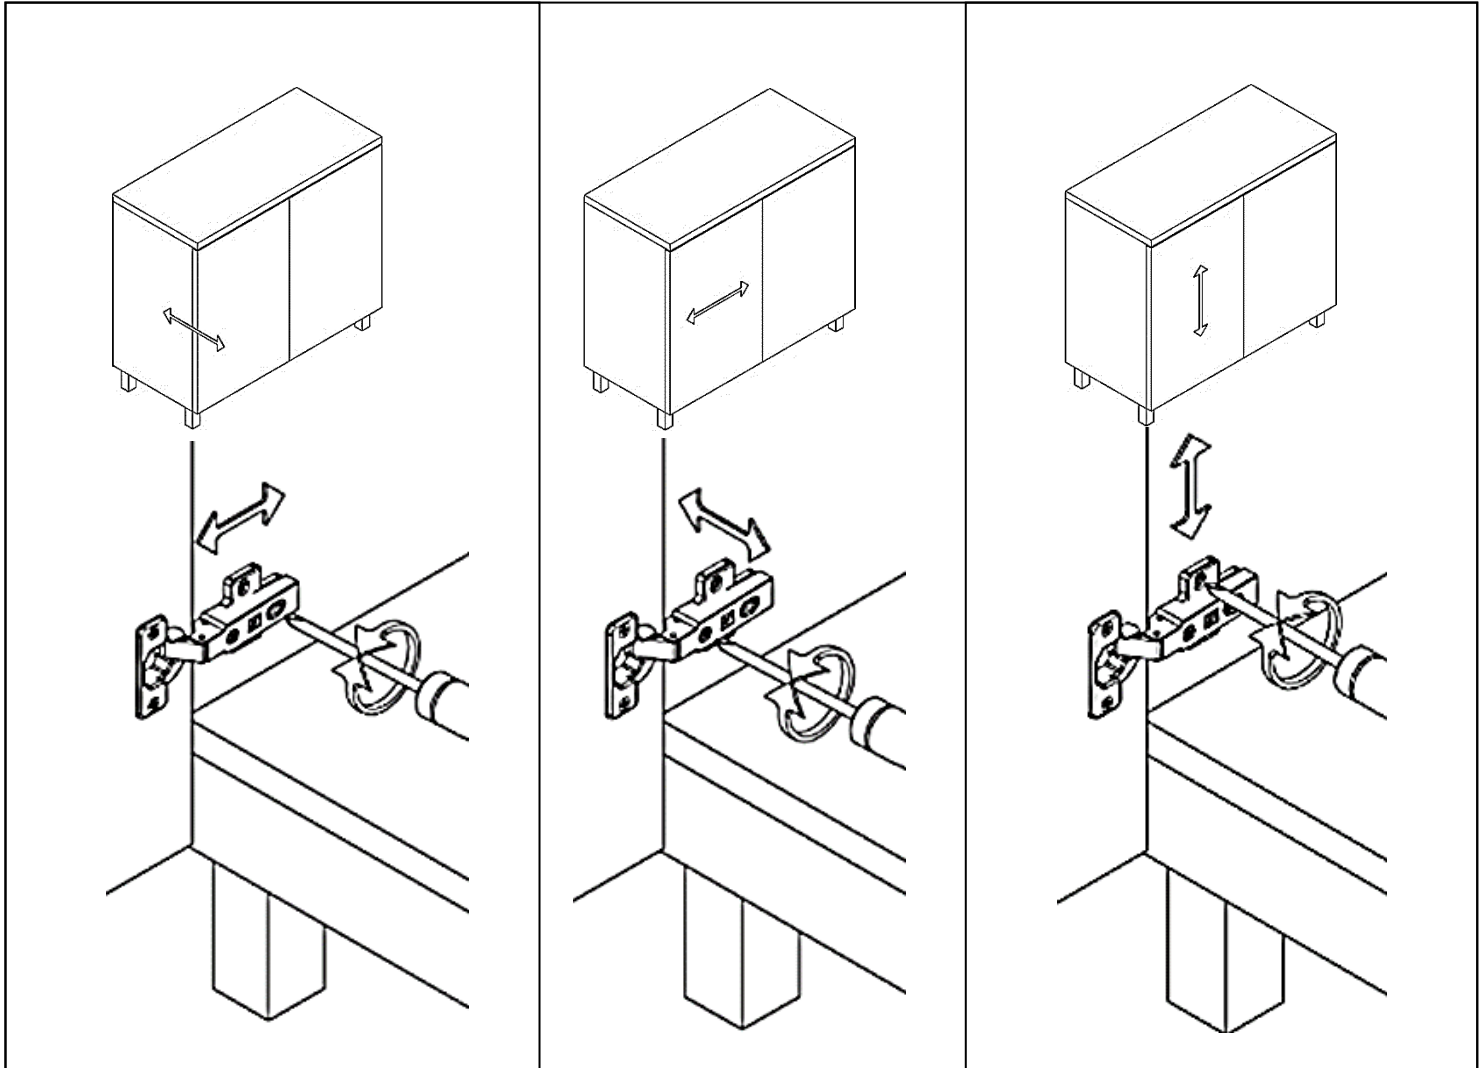

Figure 3
Step 3: Hinge Adjustment Instructions . See Figure 3